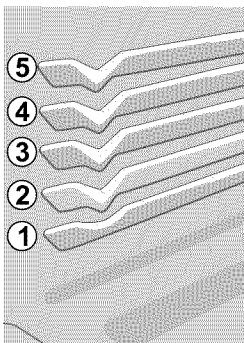
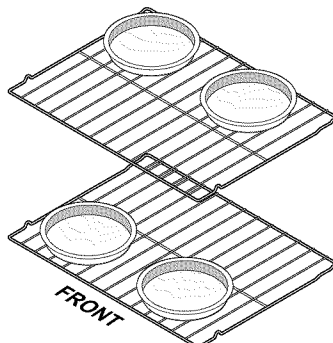

Figure 1
Figure 2 - Pan position for two rack baking.
- If using two racks, place the oven racks in positions 1 (glide rack) and 4 (flat rack) Figure 1 and position cookware as shown in Figure 2.